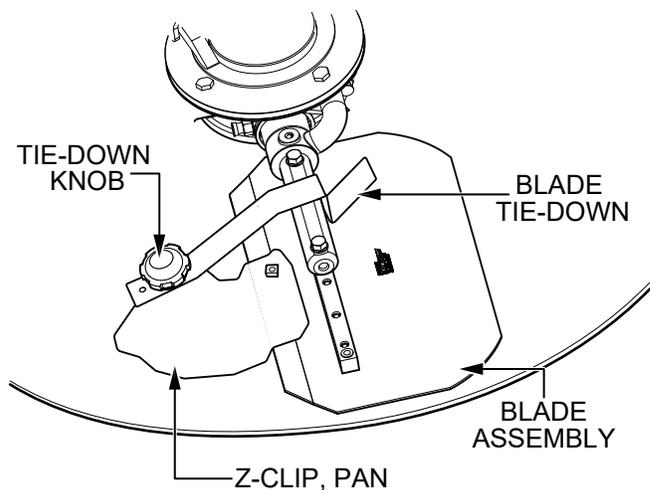

Figure 14. Float Pan Installation
2. Lift the trowel just enough to slide a float pan under the blades. Lower the trowel onto the pan with the blades adjacent to the Z-clips (Figure 14).
4. Attach the blade tie-downs to the far side of the Z-clip brackets with the tie-down knobs as shown in Figure 14.